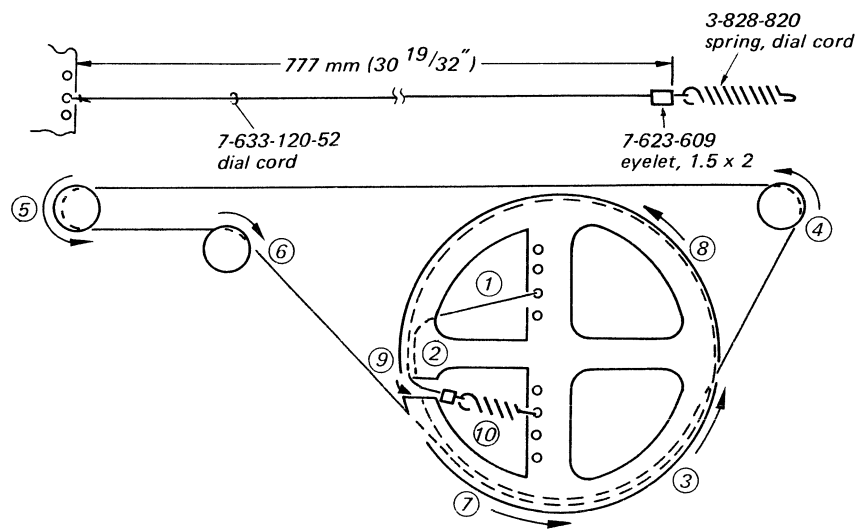

Fig. 2-5
2. Prepare the dial cord as shown in Fig. 2-5.
4. String the dial cord as shown in Fig. 2-5.